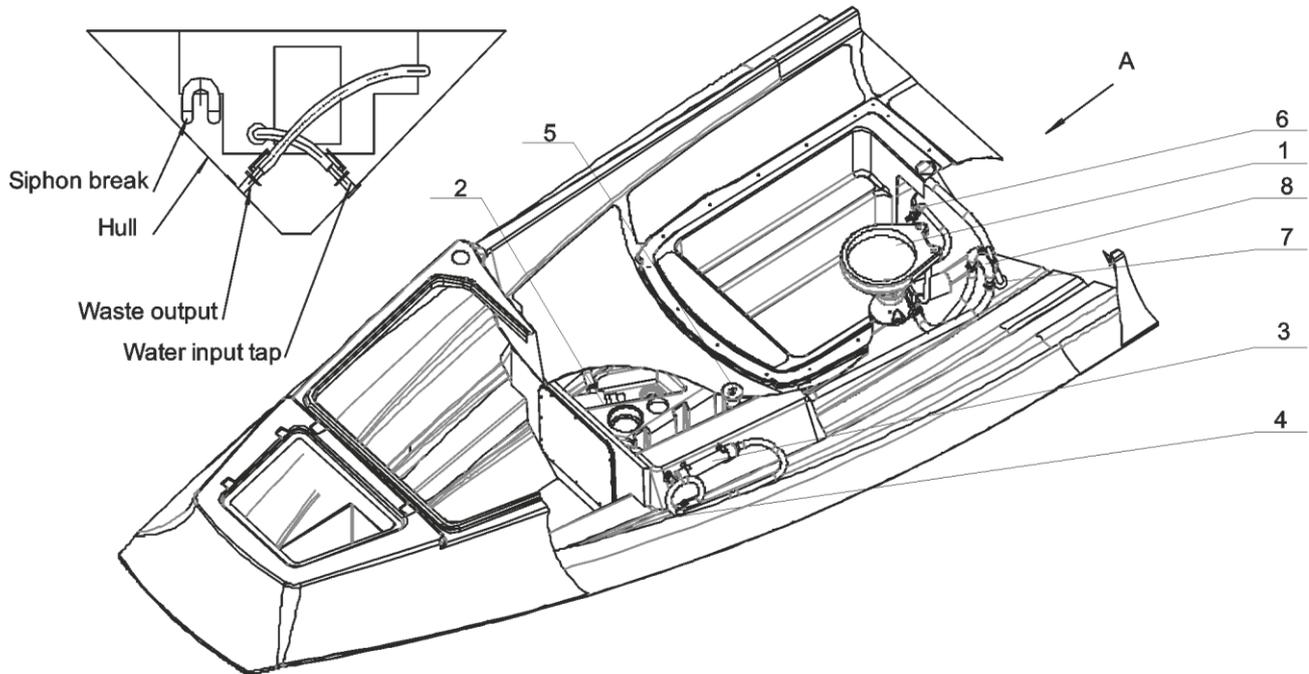

Fig. 40. Waste water system.
**Waste water system of a boat** (see fig. 40 on the previous page):
Before using a toilet, you should open water input tap (fig. 40, pos. 6). If you in offshore where the discharge of biodegradable wastewater in permitted, open overboard discharge valve. (fig. 40, pos. 7). Both taps are located in the compartment behind the toilet (fig. 39).
The filling sensor (fig. 39) of wastewater tank (fig. 40, pos. 2) is located near the toilet control panel. The discharge of wastewater tank can be done by sewage truck at a port. Connect the fitting of the receiving hose of the sewage truck with pump-out deck fitting (fig. 40, pos. 5) located on the deck, next to the steering console to do so.